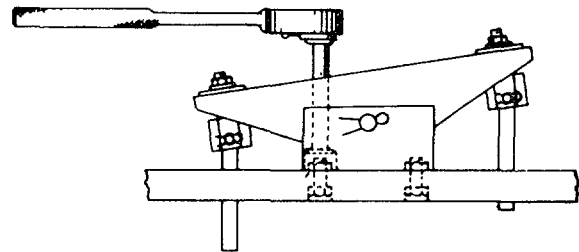

Figure 3. Installing the walking beam interlock on the mounting panel.
1. Mount the interlock with two $\frac{3}{8}$ " hex bolts, as shown in Figure 3. A socket wrench may be used to tighten the nuts, as shown.